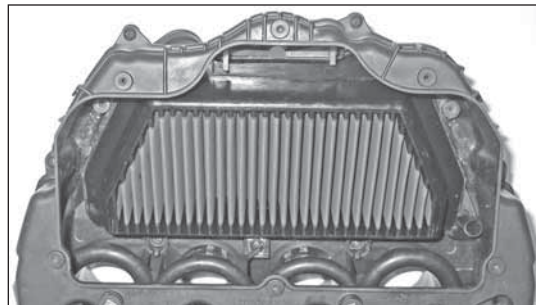

Fig 4.
5. Install the K&N® air filter into the groove in the air box. (Fig.4)